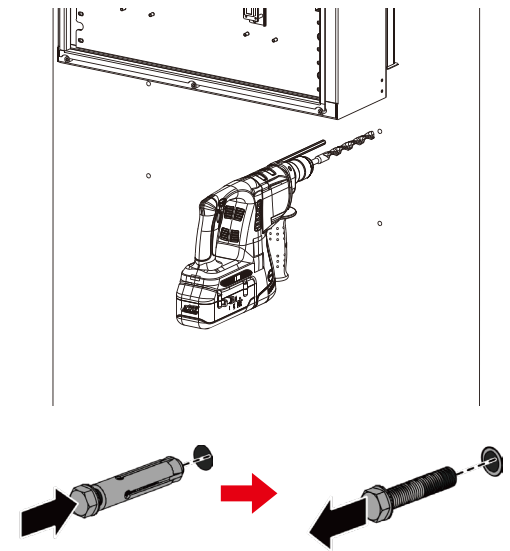

Figure 2.23 Holes for Fixing Bracket
Step 6 Drill holes at the position using a percussion drill (M12 drill, depth of holes: 70mm). After drilling, put 4 expansion bolts into the hole and take out the expansion screws as shown in Figure 2.23